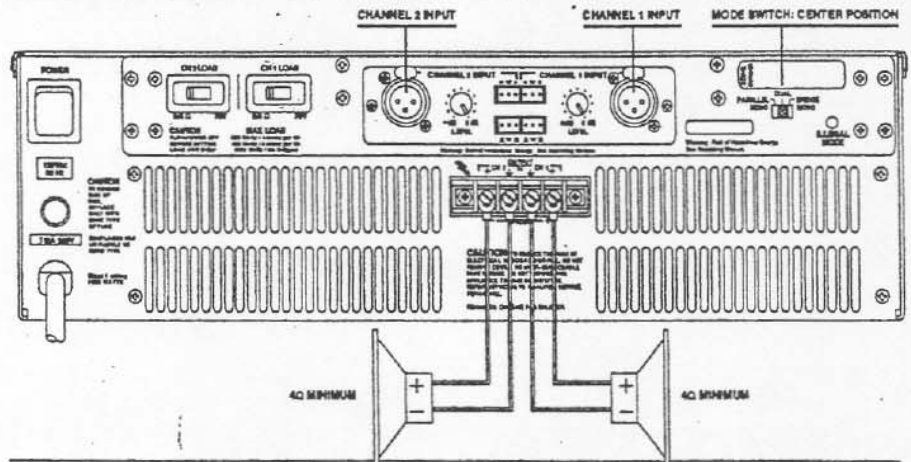

Figure 8 Dual (Stereo) Mode Connections
**Dual Mode** - In this configuration the amplifier is operating as two independent power amplifiers. Each speaker load can be independently configured for 8/4-ohm or 70-Volt line operation using the load switches located to the left of the input module (Figure 8).